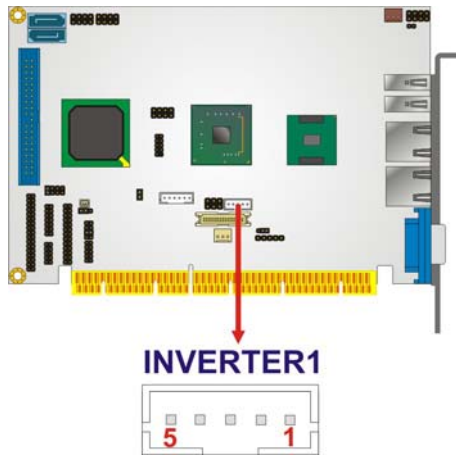

Figure 4-5: LCD Backlight Connector Pinout Locations
- CN Location:** See Figure 4-5